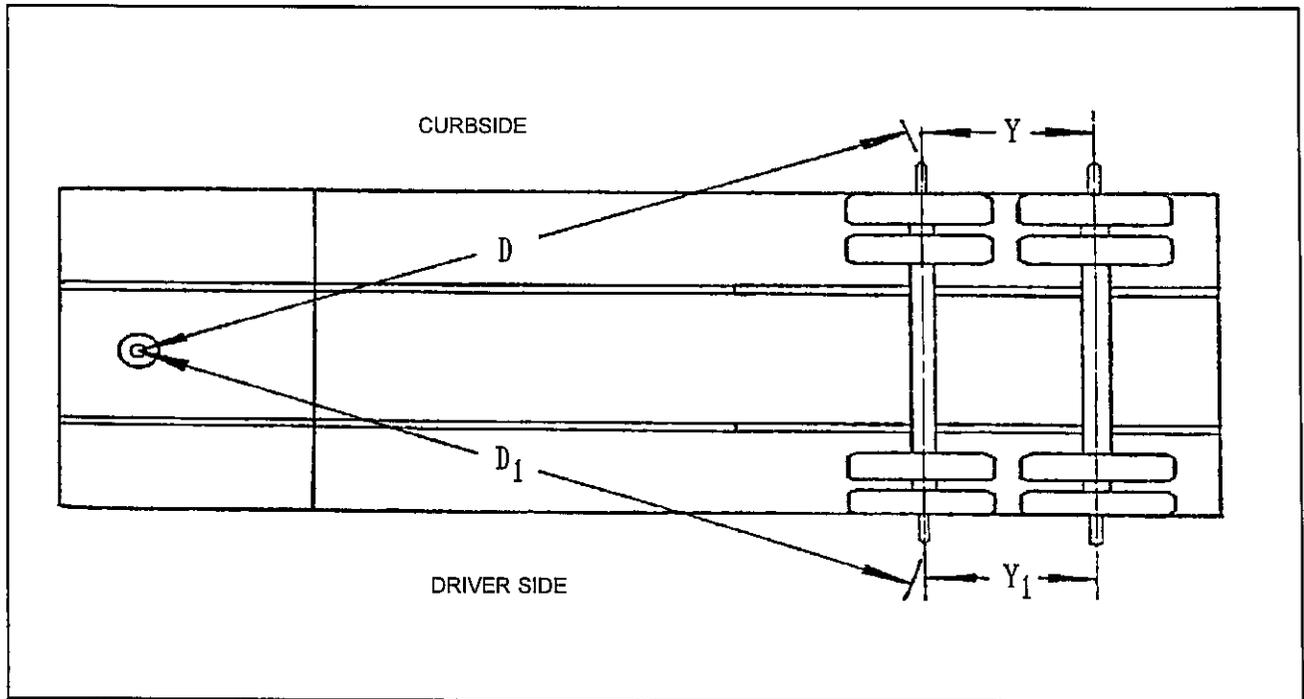

Figure 4-5 Checking Axle Alignment
5. Measure (D) from the plumb bob to the center point on one end of the axle. Record this measurement (See Figure 4-5).
6. Measure (D1) to the other end of the axle in the same manner as in Step 5. Record this measurement (See Figure 4-5).